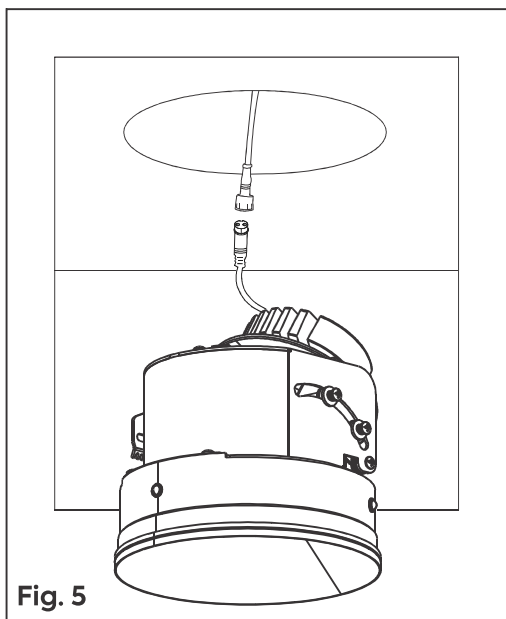

Fig. 5
Step 5: Mate the connector on the LED module with the connector from the housing or power pack **Fig. 5**.